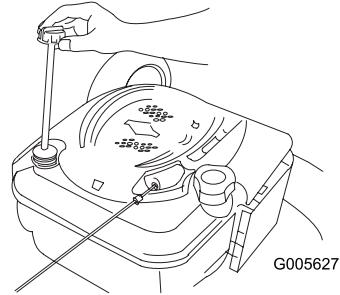

Figure 33
4. Slowly pour oil into the oil fill tube until the oil level reaches the Full line on the dipstick (Figure 33). **Do not overfill.** (Max. fill: 0.59 l, type: SAE 30W detergent oil with an API service classification of SF, SG, SH, SJ, SL, or higher.)